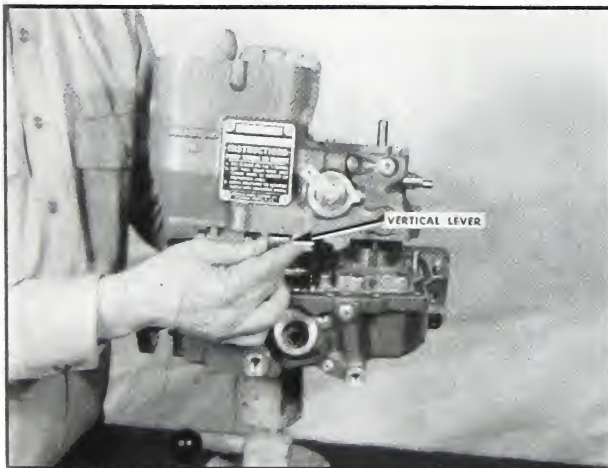

Fig. 5-335. Replace upper housing
3. With one hand through the top of the governor housing to hold the vertical lever in the metering plunger, set the upper housing in place on the main pump housing. Fig. 5-335.